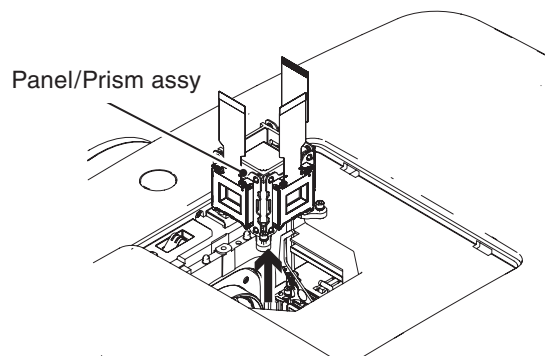

Fig. 4
- 4** Loosen 3 screws-D and take the LCD Panel/Prism ass'y upward off (Fig. 4/Fig. 6).